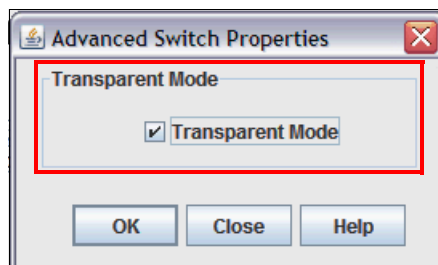

Figure 8-31 Enabling Transparent mode
4. In the Advanced Switch Properties dialog box (Figure 8-31), to enable Transparent mode on a QLogic switch, select **Transparent Mode** and click **OK**.